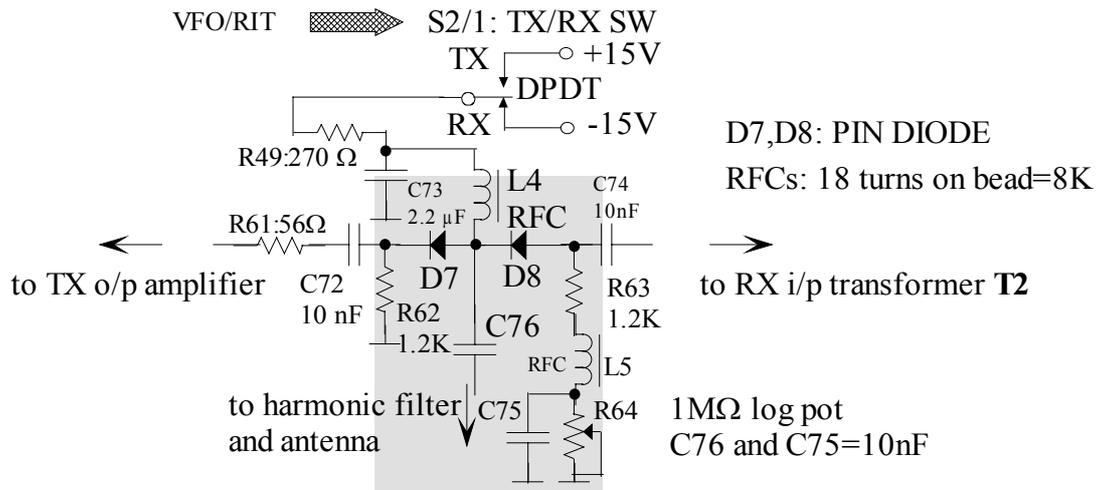

Figure 6.9 TX/RX switch circuit
TRC-10 uses two PIN diodes in a configuration shown in Figure 6.9.
S2 is a DPDT manual switch. It has a pair of switches, with independent contacts, operating in parallel. When the center tap of the first switch, S2/1, is connected to +15 V supply, TRC-10 transmits. S2/1 is the one shown in Figure 6.9. The other one, S2/2, is in the 16 MHz oscillator circuit. When the center tap of S2/1 is connected to -15 V, TRC-10 receives. The functions of S2 are:
1. The detector circuit of TRC-10 is given in Figure 6.9.
- Make the two RFCs L4 and L5, like you made L11. The circuit diagram of TX/RX switching circuit is given in Figure 6.9. Install and solder L4, L5, R49, R62, R63, C73, C74, C75, D7 and D8. Make sure that the polarities of the diodes are correct.